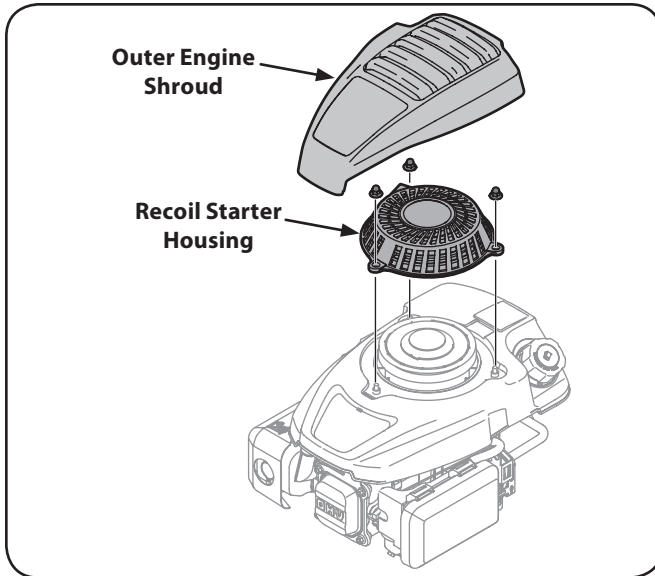

Figure 6-3
1. Remove outer engine shroud and recoil starter housing as shown in Figure 6-3.